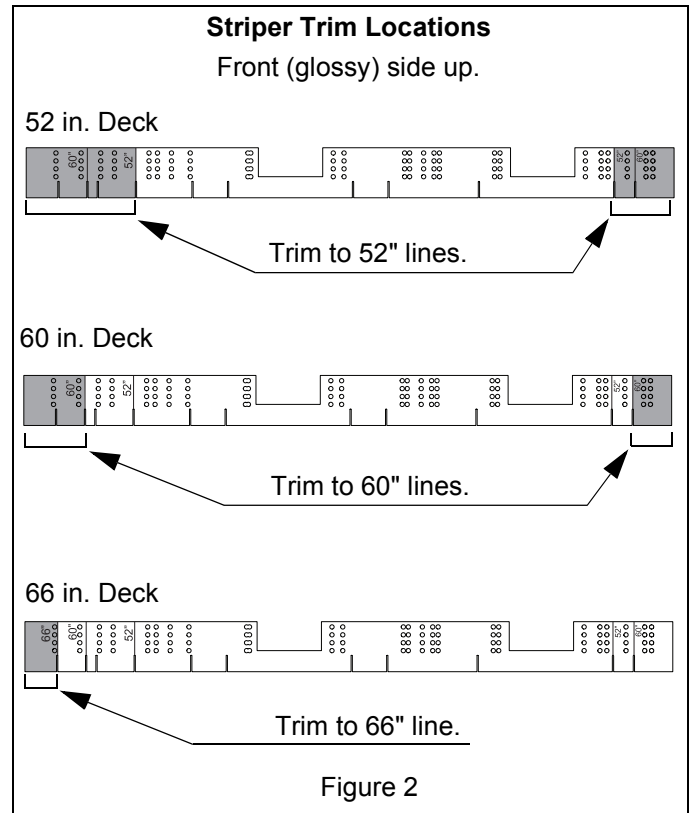

Figure 2
3. Using cut lines printed on glossy side of skirt, trim rubber striper skirt (item 4) to fit deck size. See figure 2.